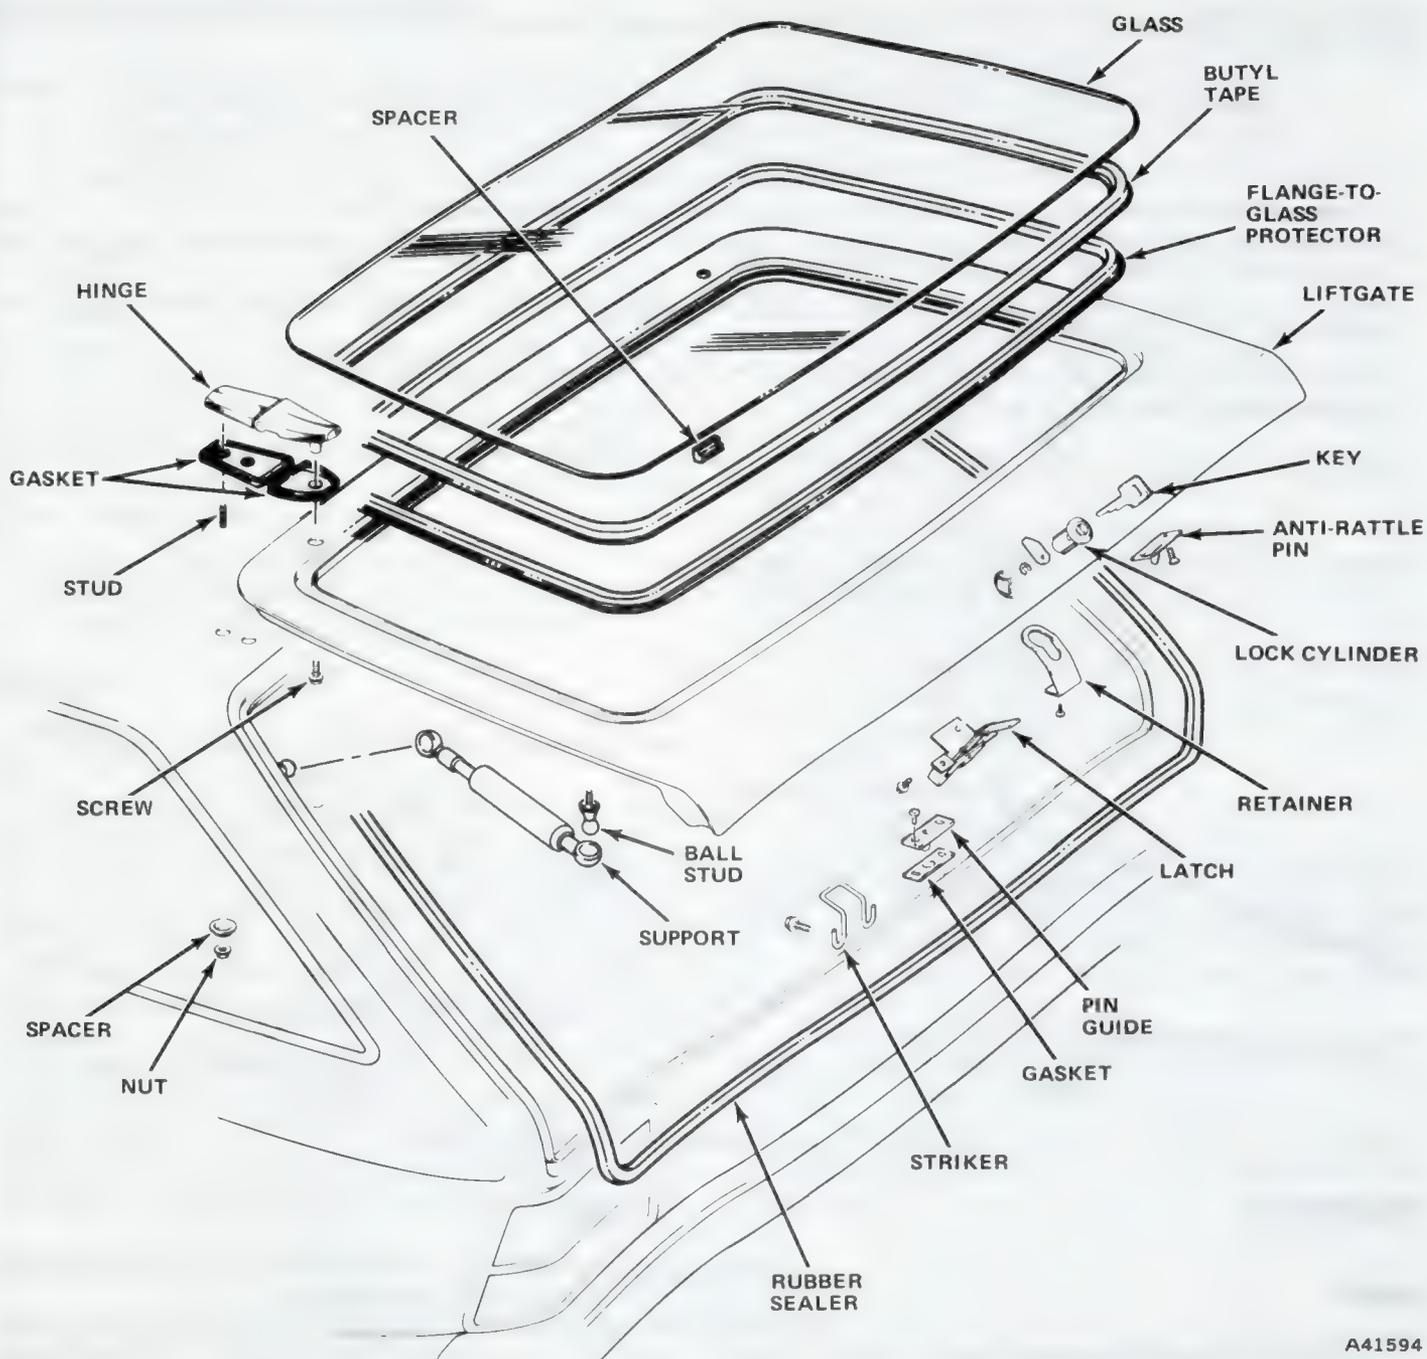

Fig. 3H-15 Concord Wagon Liftgate Components
The striker (fig. 3H-15) provides a secure retention point for the latch and limits movement of the liftgate. It consists of a formed wire loop, cushioned with a rubber sleeve, attached to the back panel assembly with two screws.
WARNING: Never remove supports with liftgate closed. The supports contain high pressure gas and may cause damage or personal injury if removed with liftgate closed. After removal, do not attempt to dismantle or repair the supports. Refer to figure 3H-16 for specific instructions for disposal.
(1) Prop liftgate in full-open position.
(2) Remove retainers (fig. 3H-15) attaching support ball sockets to ball studs.
(3) Pull support ball sockets from ball studs and remove support.